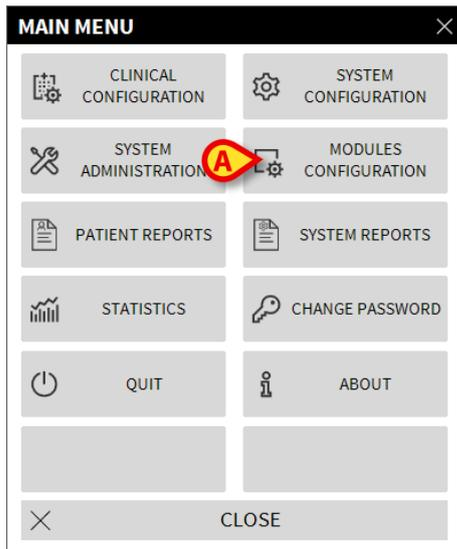

Fig 87
The following menu is displayed (Fig 87).
- Click on **Modules Configuration** (Fig 87 **A**)